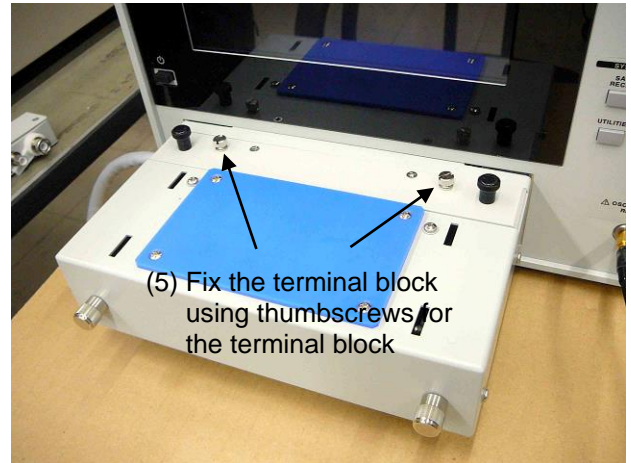

Fig. 4-8 Fixing SY-963 terminal block
- (5) After confirming that the terminal block is securely mounted on the measurement POD, fix the terminal block to the measurement POD using two thumbscrews for the terminal block, which is an accessory of SY-960. (See Fig. 4-8)